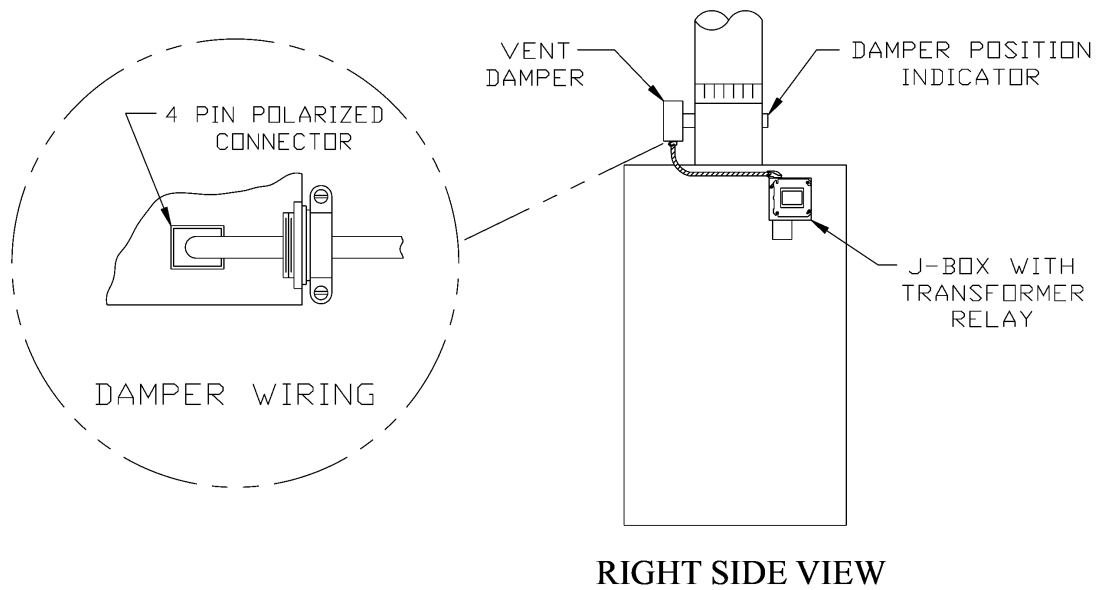

FIGURE 9: VENT DAMPER INSTALLATION DETAILS
14) Install vent damper (see Figure 9) as follows: